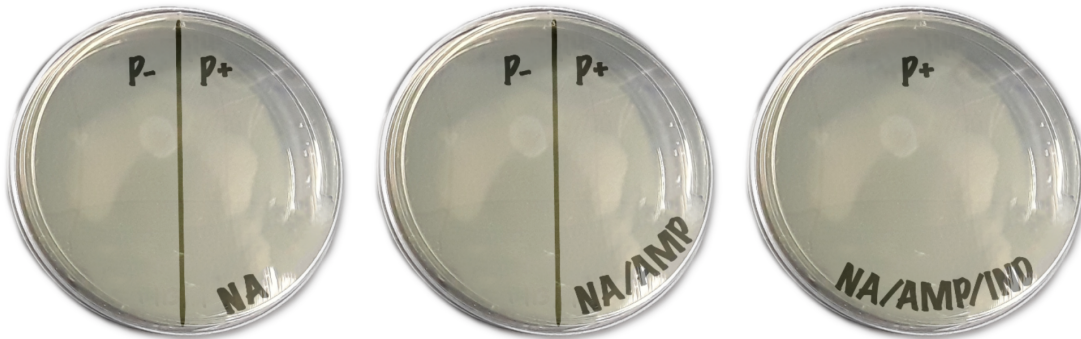

Figure 4, Labeled plates
- a. Each agar plate contains different media- one of Nutrient Agar only (NA), one of Nutrient Agar + ampicillin (NA/AMP), and one of Nutrient Agar + ampicillin + inducer (NA/AMP/IND). These may be labeled with a stripe pattern or written on the plate
- c. Next, draw a line down the middle of the NA and NA/AMP plates. One half is labeled as “P-” and the other is “P+”. The NA/AMP/IND is only labeled “P+”. They should look similar to Fig 4